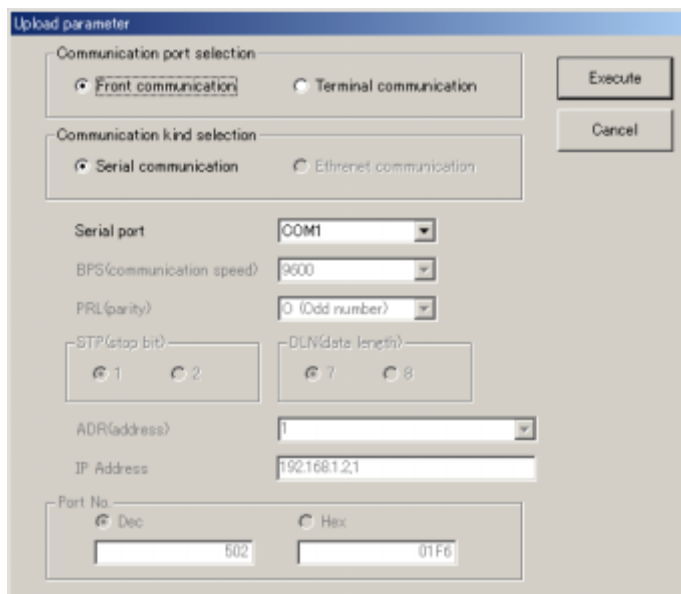

Figure 6.1.1 Upload Parameter Dialog Box
The Upload Parameter dialog box (Figure 6.1.1) appears.
- (1) On the menu bar, click **Communication**, and then choose **Upload from controller**. The Upload Parameter dialog box (Figure 6.1.1) opens.
- (2) Click **Terminal communication** (this means to use the communication terminals at the rear of the controller).
- (3) Click **Ethernet communication**.
- (4) Set the target controller's IP address and RS485 communication address in the **IP Address** text box.
- (5) Set the target controller's port number in the **Port No.** text box. The port number can be set in decimal or hexadecimal.
- (6) Connect the controller to the personal computer, and then click **Execute**.
- (7) When the parameter data has been successfully uploaded, the tool displays a message stating "Parameter data has been uploaded from the controller."
- (8) Click **OK**. The Setup Parameter Menu dialog box appears.